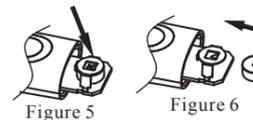

Figure 5
3. Pull battery cover off. Gently pull out plastic circuit board with battery chamber approximately 1cm (slightly less than 1/2") as shown in Figure 5.